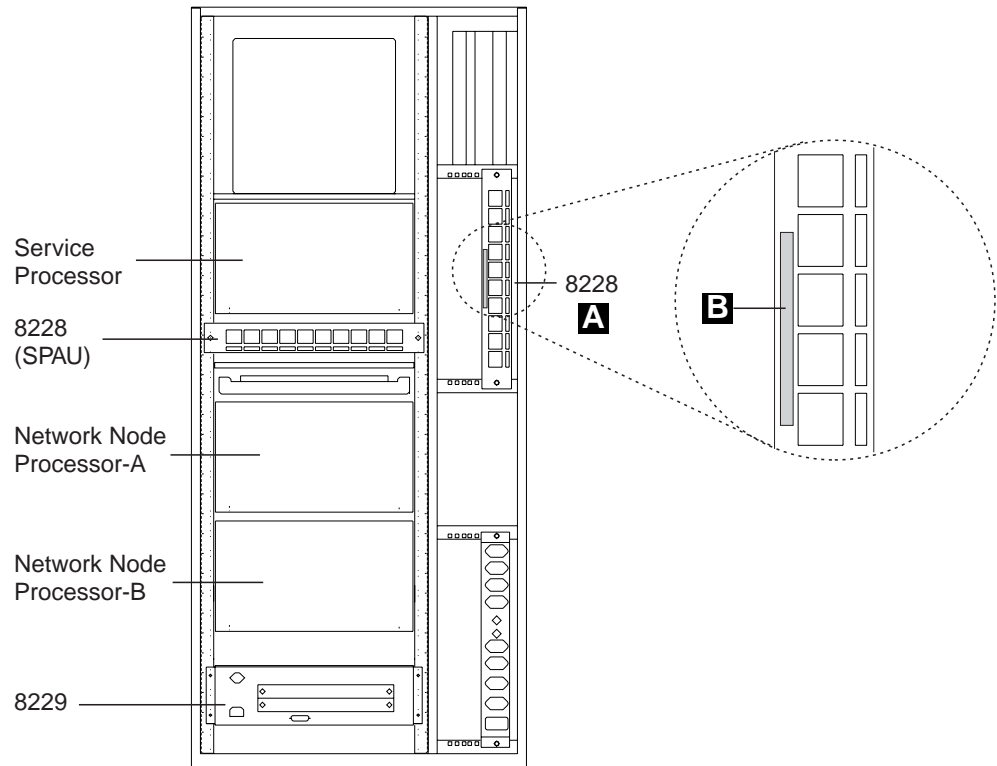

Figure 2-21. Installing One Ethernet Bridge in the Controller Expansion-A (Rear View)
- g. \_\_\_\_ Refer to Figure 2-21, and install vertically the 8228 **A** on the rear side of the controller expansion-A using two screws (PN 1621232) and two captive nuts (PN 58G5766). Using label **B** (PN 782964), identify the 8228 as Ethernet Bridge Access Unit-A